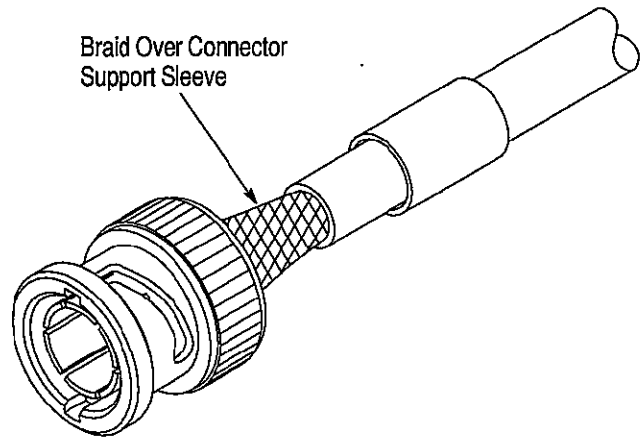

Figure 5
5. Insert center contact into plug body until it snaps into place. Make sure the cable braid is positioned over the connector support sleeve. Pull back gently on the cable to ensure that the contact is held in place by the internal locking feature. See Figure 5.